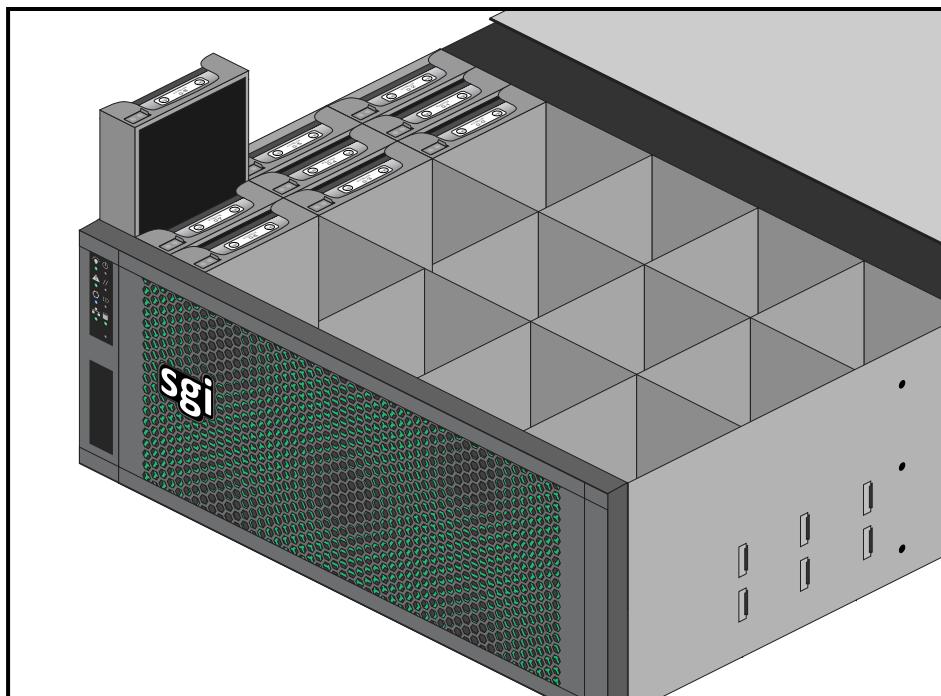

Figure 2-19 Drive Installation in StorBrick Module Example
4. Place the corresponding drive into its drive slot and press firmly into the StorBrick, see the example in Figure 2-19 on page 38. You will know the drive is in place when the latch on the top of the drive carrier snaps into place.